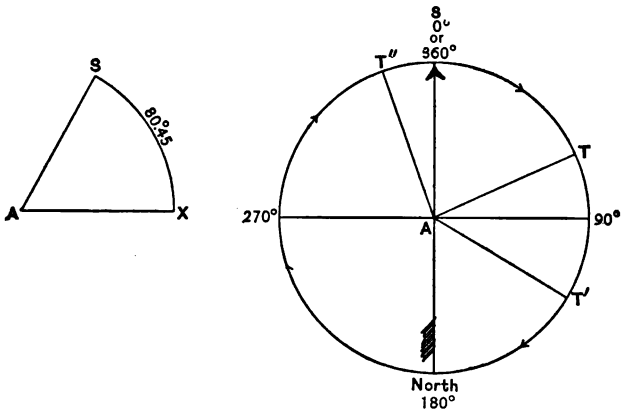

FIG. 57.
In Fig. 57 the two intersecting lines  $SA$  and  $XA$  form the angle  $SAX$ , and when measured on the circle with  $A$  as the center
A. A circle is a plane figure bounded by a curve, every point of which is equally distant from a point within called the center. Fig. 57 represents a circle with *A* as the center.
A. The point where the two intersecting lines cross. As in Fig. 57, *A* is the vertex of the angle *SAX*.